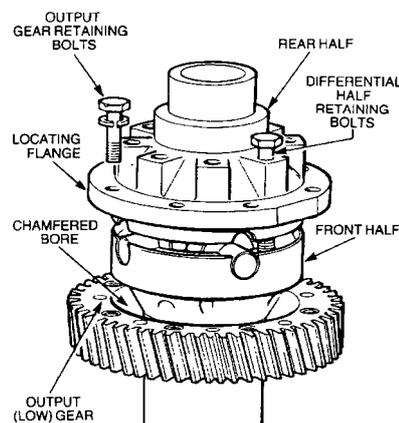

Figure 188 Removing the Output (Low) Gear
- y. Remove the bolts and lock-washers retaining the output (low) gear to the differential and remove the gear (Figure 188). Discard the lock-washers.
- z.** Support the differential assembly in the vertical position with the rear half uppermost. Remove the bolts and lock-washers retaining the two differential halves together. Lift off the rear half (Figure 188). Discard the lock-washers,
- g.** Install the output (low) gear over the front half of the differential ensuring that the chamfered bore and countersunk ends of the tapped hole are towards the locating flange (Figure 188) and align the bolt holes.